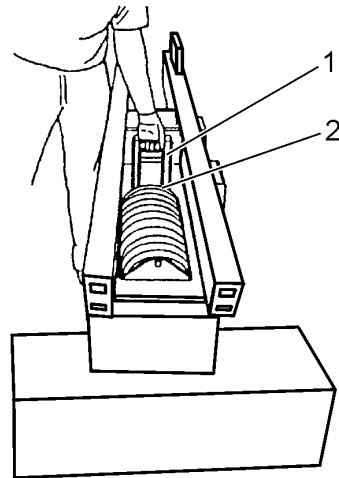

Fig. 14.46. Retainer Bridge Installation
13. Position retainer bridge on track frame. Using ram pump, compress track spring far enough to install bridge. Install retainer bridge (1, Fig. 14.46) between front spring retainer (2) and track frame support rib. Removal all spring compression tools from track frame.